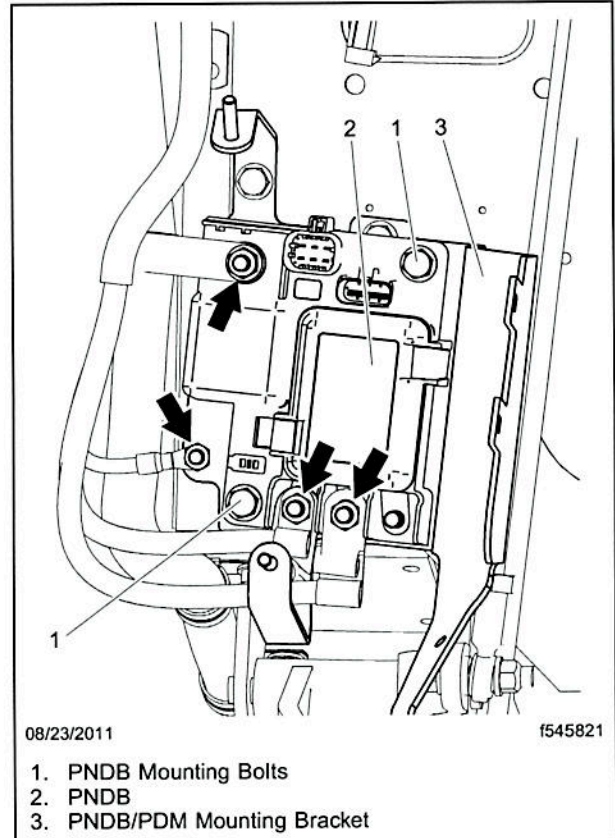

Fig. 2, Electrical Connections, PNDB
7. Mark all of the electrical cables and their positions on the PNDB, then disconnect them from the PNDB. See **Fig. 2**.
8. Remove the PNDB from the PNDB/PDM mounting bracket. See **Fig. 2**.
9. Remove the PNDB/PDM mounting bracket from the front wall. See **Fig. 2**.